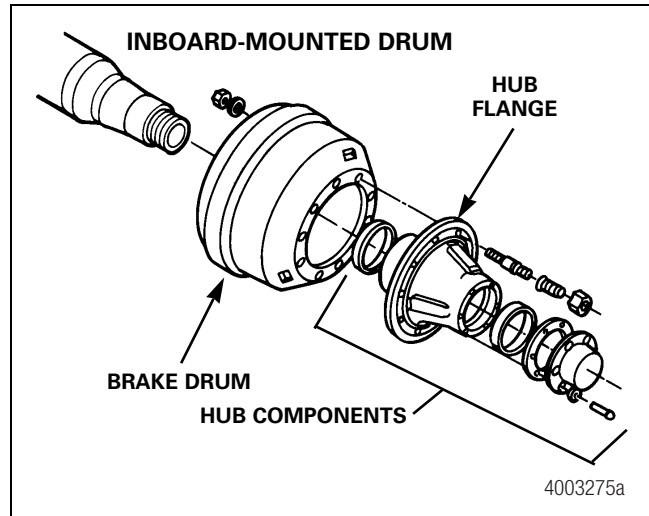

Figure 9.13
- **On inboard-mounted drums:** With this configuration, the brake drum is mounted inboard of the hub flange. Therefore, the hub must be removed prior to removing the brake drum. The main disadvantage of this design is that wheel-end bearings, seals and lubricant must be disturbed during brake maintenance. Figure 9.13.